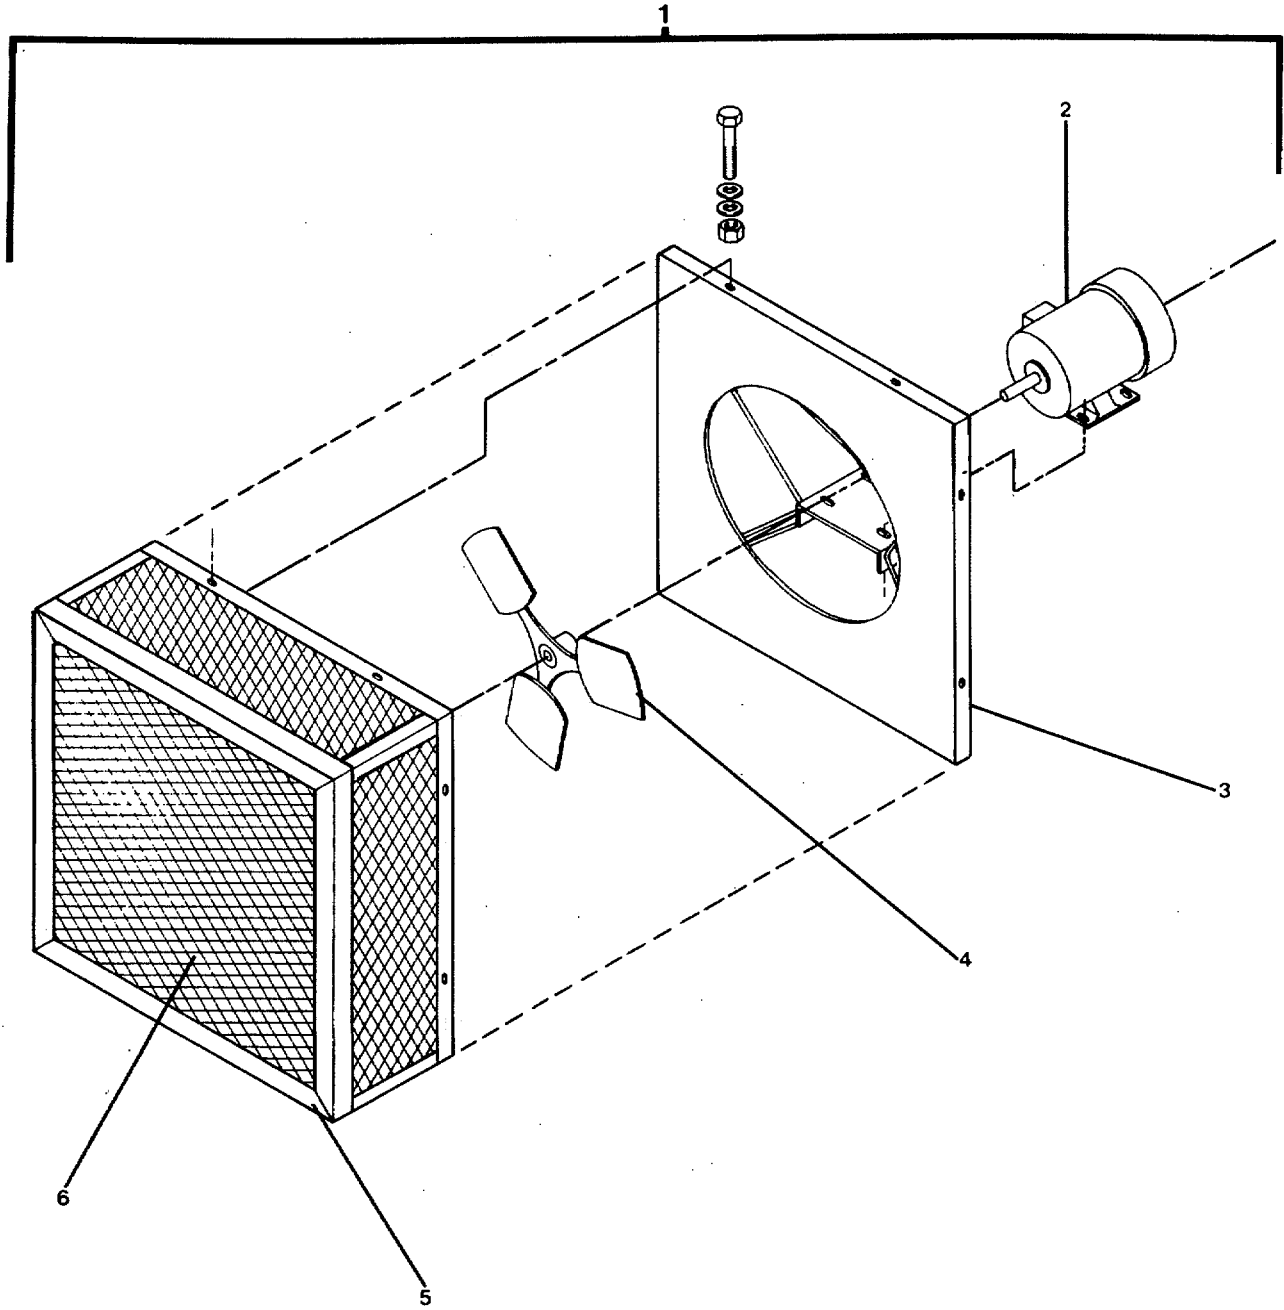

Figure 3-12. Ventilating Fan (Supply Fan #5).
- (1) Turn electrical power ON.
- (2) Start and run fan motor to check operation.
- (3) Remove "Out of Service" tag from the circuit.
**3-21. Repair Fan, Ventilating (Supply Fan #5). (FIGURE 3-12)**